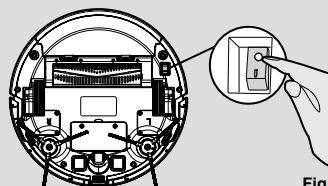

Fig. 9
Switch on the vacuum robot with the On/Off switch on the bottom (I). **[Fig. 9]** Set it down in front of the charging station.
1. Press the ON/OFF power switch on the bottom robot. **[Fig. 9]**